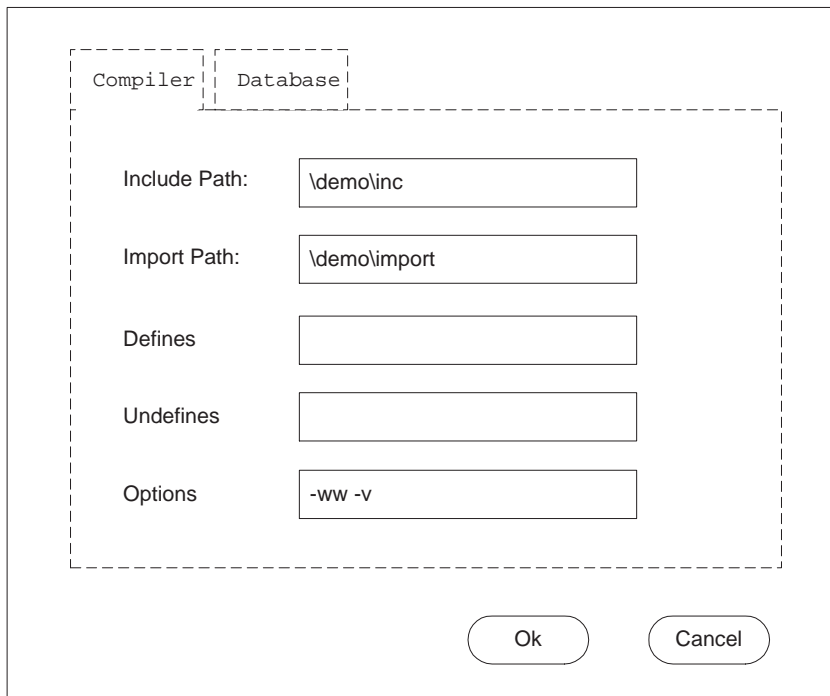

Figure 14: Edit Preferences dialog (Compiler tab).
Operation Preference editing allows viewing and setting of the application settings of SCE. Users start editing the preferences of SCE by selecting *Main :: Project ⇒ Preference*. This will pop-up the Edit Preferences dialog, which allow users to browse and specify the compiler and database settings. The Edit Preferences dialog is illustrated in Figure 14. A dashed rectangular represents a tab. A solid rectangular represents an edit box. A rounded rectangular represents a button.
- (a) The Compiler tab allows viewing and editing of compiler settings. The screenshot for Compiler tab is shown in Figure 14. The Compiler tab contains line edit boxes for all compiler settings. The text in the *Include Path* and *Import Path* lines defines the directory lists (separated by colons) for the standard include and standard import paths, respectively. The text in the *Defines* and *Undefines* lines define the list of macro defines and undefines (separated by semicolons), respectively. Finally, the text in the *Options* line defines the compiler options/switches.